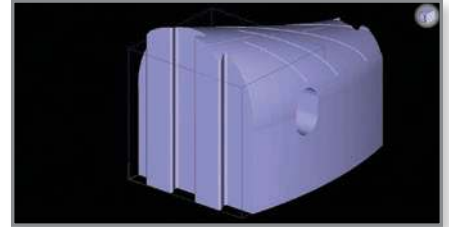

Figure 11: Part oriented and oversized in the Z direction.
- STEP 2:** Open, orient and slice the STL file (Figure 11).